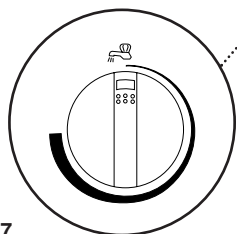

Fig. 7
4. **Domestic Hot Water:** The temperature of the domestic hot water can be adjusted by turning the control knob clockwise to increase or anticlockwise to decrease (Fig. 7).